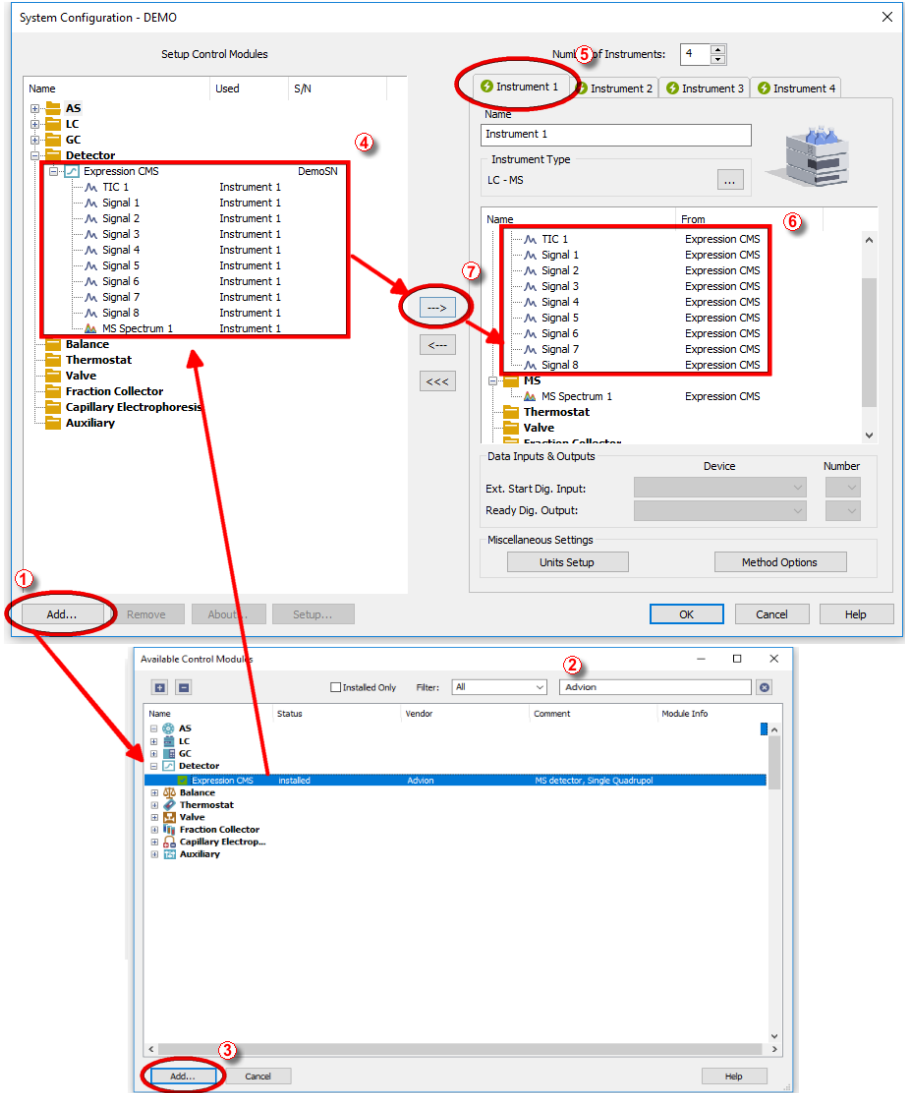

Fig 2: How to add Advion Expression CMS
- Press the *Add* button ① (see **Fig 2** on pg 4.) to invoke the **Available Control Modules** dialog.
- You can specify the searching filter ② to simplify the finding of the driver.
- Select the **Expression CMS** and press the *Add* ③ button.